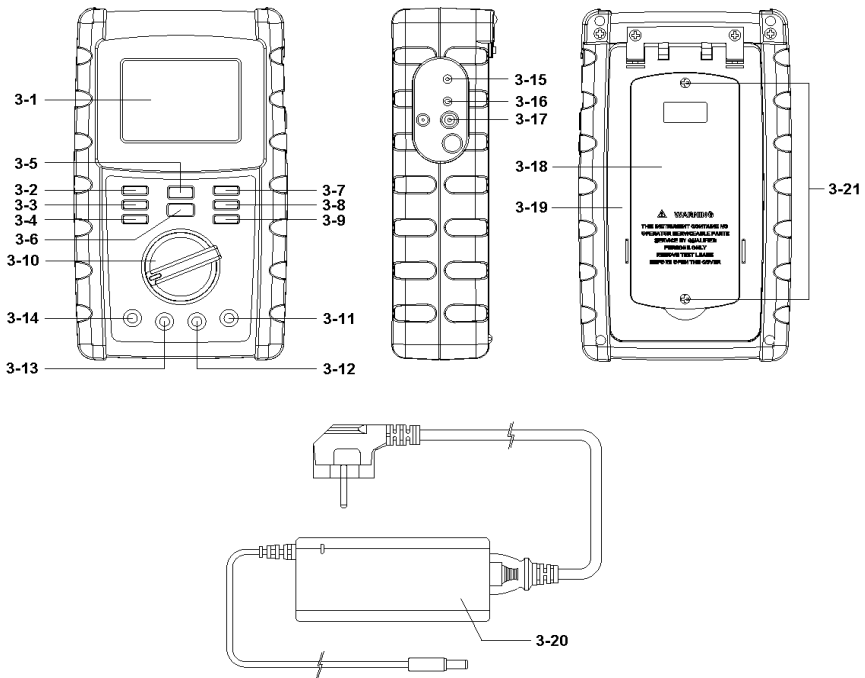

Fig. 1
- 1) Power on the instrument by rotate the "Power / Range rotary switch" ( 3-10, Fig. 1 ) to exit the " OFF " position and then select measuring range from 60000  $\mu\Omega$  to 6000  $\Omega$  according to your requirement.
- \* **At 60000  $\mu\Omega$  ( 10A ) must use DC 9V adapter from socket ( 3-17, Fig. 1 ).**
- \* Red cable ( with white O ring marker ) to " Force + " terminal ( 3-11, Fig. 1 )
- \* Red cable ( no white O ring marker ) to " Sense + " terminal ( 3-12, Fig. 1 )
- \* Black cable ( with white O ring marker ) to " Force - " terminal ( 3-13, Fig. 1 )
- \* Black cable ( no white O ring marker ) to " Sense - " terminal ( 3-14, Fig. 1 )
- 4) Press the "START / STOP" key ( 3-6, Fig. 1 ) will start measure the unknown device.
- 5) When your tested material has inductive, you can press " L/▲ " key ( 3-7, Fig. 1 ) for change to inductor mode ( at 600 mΩ and 60000 uΩ range ) , Display will showing " L " mark. normal is resistor mode.
Primary to press the " SET / TEST " ( 3-4, FIG. 1 ) button enter setting mode.
The last digit should flash at " H i warning value " on the display . Then press " L / ▲ " buttons ( 3-7, Fig. 1 ) to increase or " COMP / ▼ " buttons ( 3-9, Fig. 1 ) to decrease digit that you want to alter large value,
press the " BEEP / ◀ " buttons (3-8 , Fig. 1) set warning value , When user to move 1st digit unit to next digit unit (10th, 100th. 1000th).
Finished (1) procedure then press the " SET / TEST " button ( 3-4, Fig. 1 ) again, The last digit should flash at " LO warning value " on the display . Other operate way same above explain.
3) Finished (1)(2) procedure then press the " SET / TEST " button ( 3-4, Fig. 1 ) once . The function should return to TEST MODE and indicate measure value when clipping the resistor.
4) When measuring period press " COMP / ▼ " ( 3-9 , Fig. 1) button once, The display will show " GOOD " or " FAIL " symbol to inform be measure results.
**\* Press " BEEP / ◀ " ( 3-8, Fig 1) button once will start buzzer, press once again to disable " BEEP " function.**
- 3) Press " HOLD " button ( 3-5, Fig. 1 ) to release HOLD status.
- 4) Press " SET / TEST " button ( 3-4 , Fig.1) more than three seconds into sample unit mode.
- 5) Then press " L / ▲ " button ( 3-7 , Fig.1) or " COMP / ▼ " button( 3-9 , Fig.1) to select unit (meter or feet).
- 6) Press " START / STOP " button ( 3-6 , Fig.1) to sampling unit value.
- 7) Press " SET / TEST " button ( 3-4 , Fig.1) to save the value and showing the cable length .
- 8) Once press "SET / TEST" button ( 3-4 , Fig.1) more than 3 second . Will return to measure mode .
The instrument has RS232 PC serial interface via a 3.5 mm terminal ( 3-15, Fig. 1 ).